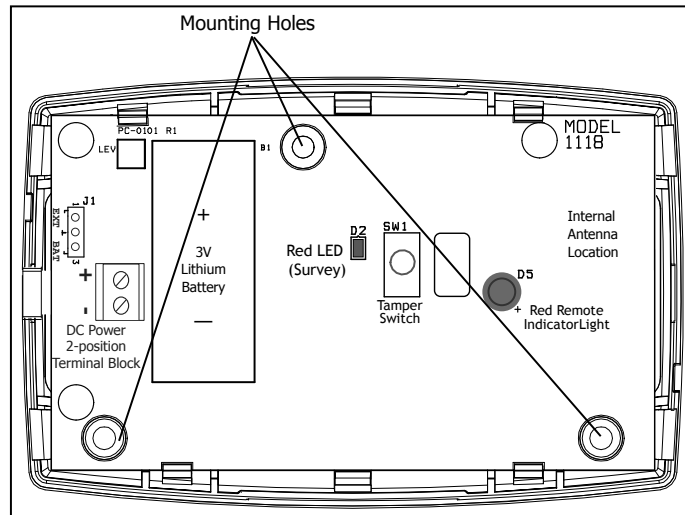

Figure 2: 1118 Remote Indicator Light PCB
The 1118 provides a survey capability to allow one person to confirm communication with the receiver while the cover is removed. The 1118 PCB Red Survey LED (see Figure 2) turns on whenever data is sent to the receiver then immediately turns off when the receiver acknowledgement is received. Pressing the tamper switch is a convenient way to send data to the receiver to confirm operation. When the 1118 does not receive an acknowledgement from the receiver, the survey LED remains on for about 8 seconds to let you know communication is not established. Communication is also faulty when the LED flashes multiple times in quick succession. Relocate the 1118 or receiver until the LED immediately turns off indicating the 1118 and receiver are communicating properly. Proper communication between the 1118 and receiver is verified when for each press or release of the tamper switch, the LED blinks immediately on and immediately off. Repeat this test to confirm five separate consecutive LED blinks. Any indication otherwise means proper communication has not been established.
Mount the 1118 on a flat surface such as a wall or single-gang box. When using the optional Model 376L plug-in power supply, mount the 1118 near a wall outlet. See Figure 2 for mounting hole locations.
4. Place the 3V Lithium battery in the holder and press into place. See Figure 2 for Battery location.